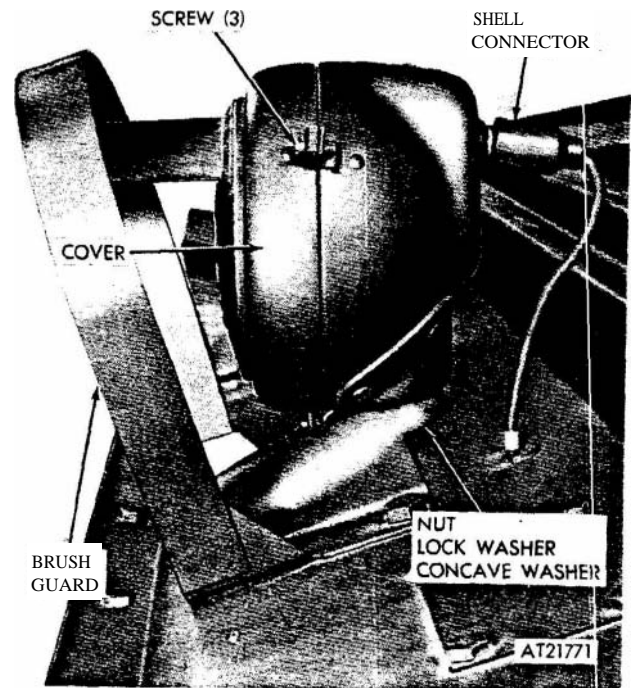

Figure 2-119. Blackout headlight and cover, removal and installation.
(1) Disconnect electrical connector from light assembly (fig 2-119).
(2) Remove blackout light assembly from mounting bracket by removing nut, lock washer, and concave washer located beneath light.
(1) Remove cover assembly by removing three screws (fig 2-119).
- (2) Connect electrical leads between lamp and body. Secure lamp and cover with three screws (fig 2-119).
- (3) Connect electrical connector to rear of blackout light.